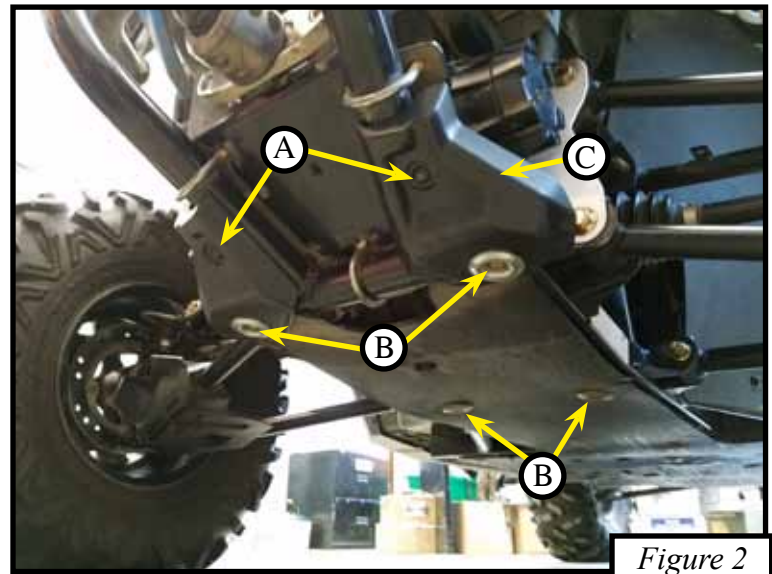

Figure 2
1. Remove the two screws (A) from the front frame tubing. Shown in Figure 2.
2. Remove the four screws (B) from the skid plate and let the skid plate hang down. Set the plastic covers (C) aside for now. Shown in Figure 2.